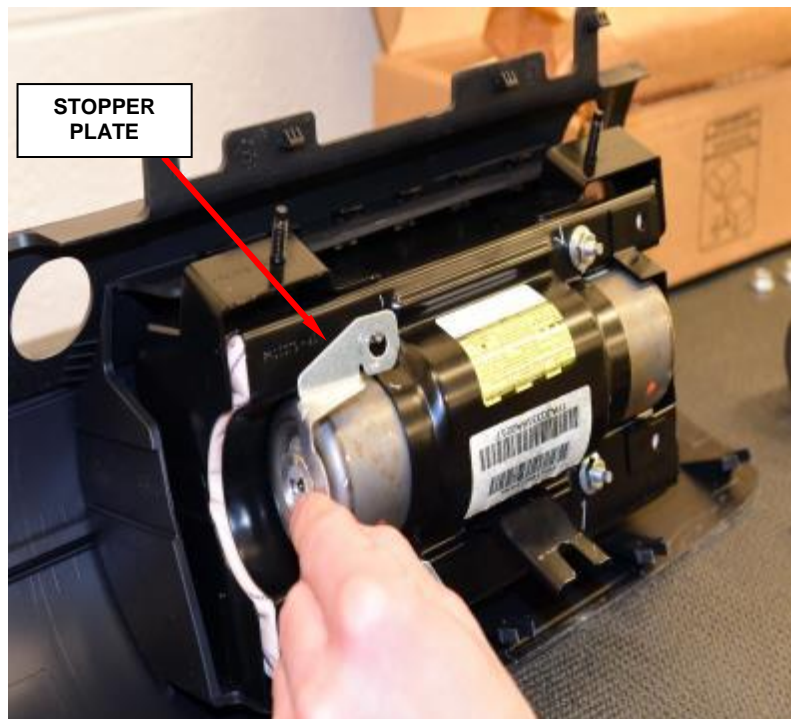

Figure 115 – Stopper Plate
c. Remove and save the stopper plate from the passenger airbag module (Figure 115).